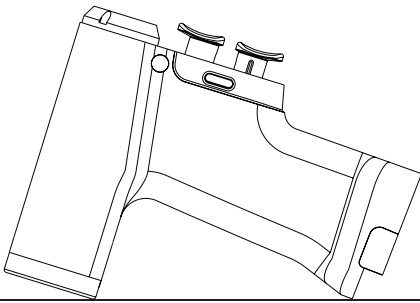

Figure 4 To remove water from the handpiece
6. If water seeps inside the handpiece, tilt back so that the water runs through a small opening in the contact area of the battery pack (Figure 4).